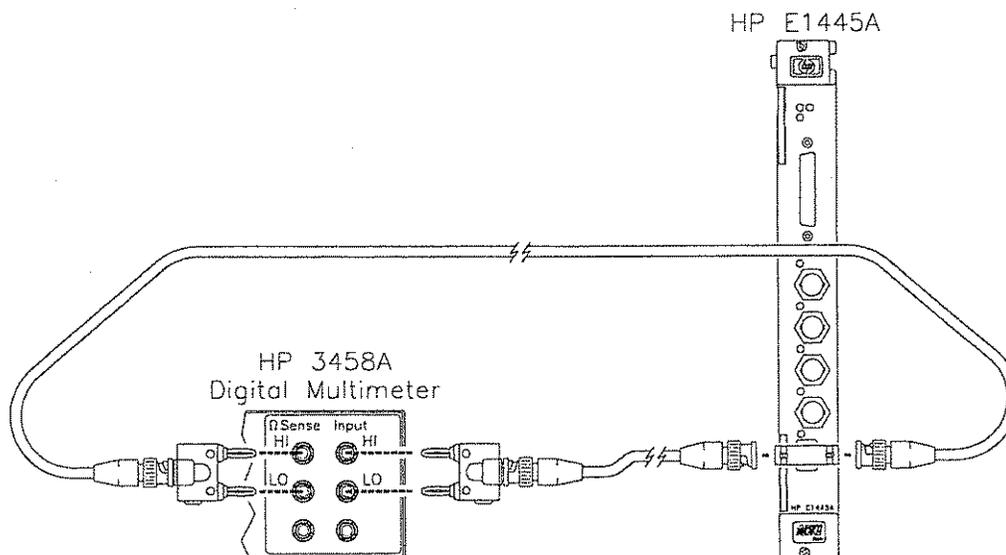

Figure 3-2. DC Adjustment Setup
- Connect the equipment as shown in Figure 3-2